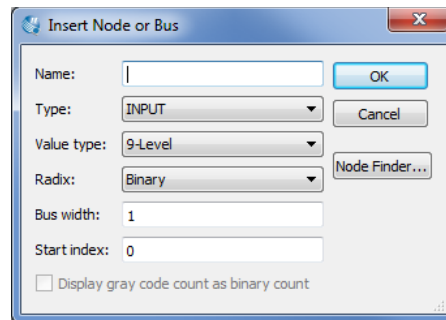
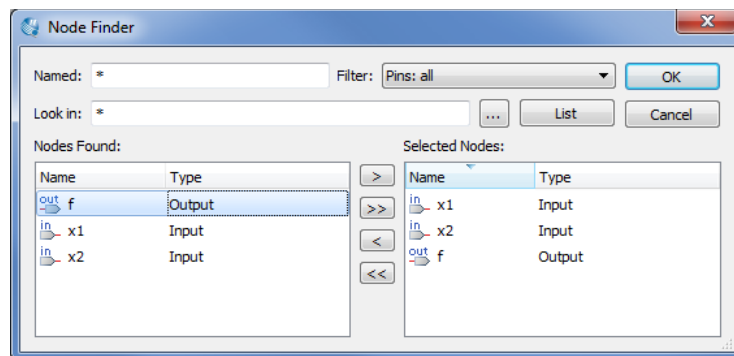
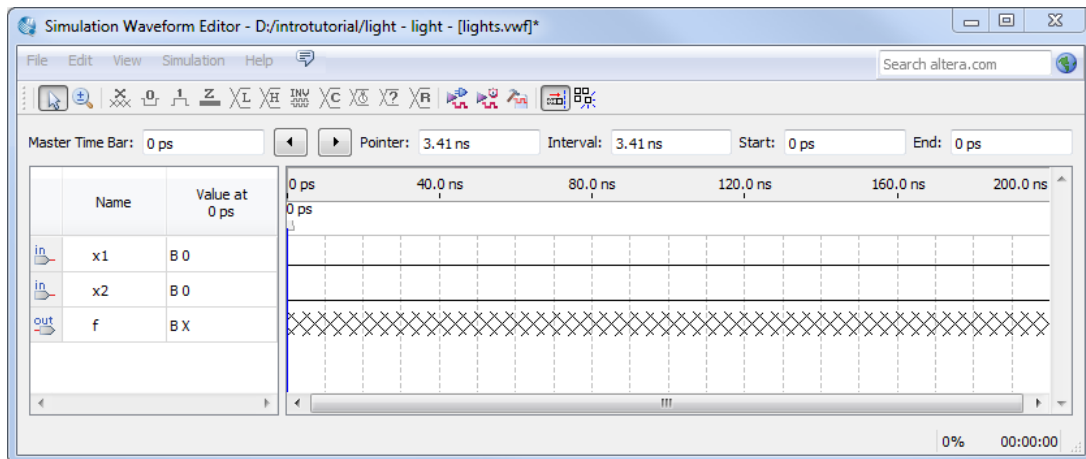

Figure 33. The Insert Node or Bus dialogue.
Figure 34. Selecting nodes to insert into the Waveform Editor.
Figure 35. The nodes needed for simulation.
3. Next, we want to include the input and output nodes of the circuit to be simulated. Click **Edit > Insert > Insert Node or Bus** to open the window in Figure 33. It is possible to type the name of a signal (pin) into the Name box, or use the Node Finder to search your project for the signals. Click on the button labeled **Node Finder** to open the window in Figure 34. The Node Finder utility has a filter used to indicate what type of nodes are to be found. Since we are interested in input and output pins, set the filter to **Pins: all**. Click the **List** button to find the input and output nodes as indicated on the left side of the figure.
Click on the *x1* signal in the Nodes Found box in Figure 34, and then click the > sign to add it to the Selected Nodes box on the right side of the figure. Do the same for *x2* and *f*. Click OK to close the Node Finder window, and then click OK in the window of Figure 33. This leaves a fully displayed Waveform Editor window, as shown in Figure 35. If you did not select the nodes in the same order as displayed in Figure 35, it is possible to rearrange them. To move a waveform up or down in the Waveform Editor window, click within the node's row (i.e. on its name, icon, or value) and drag it up or down in the Waveform Editor.